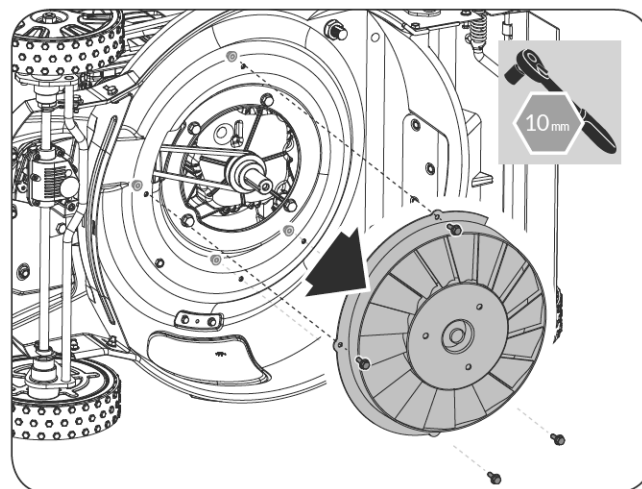

Figure 25
3. Remove the four M6x12 bolts fixing the engine pulley cover and put the engine pulley cover aside. (See **Figure 25**)